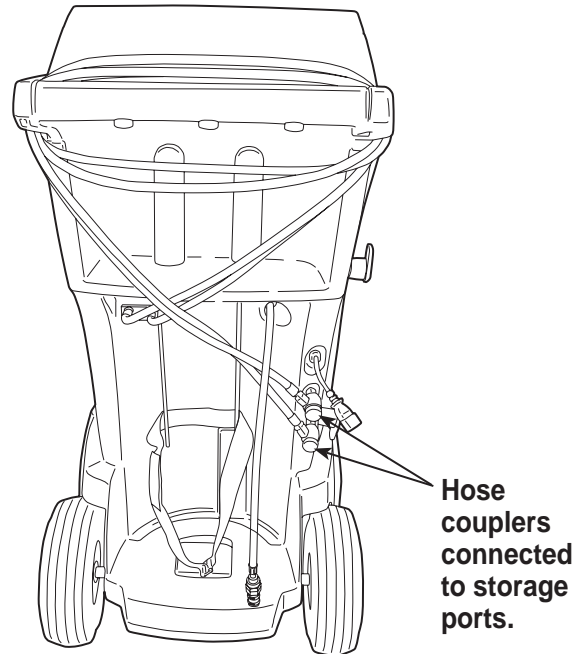

Figure 25
2. Loop the service hoses around the handle twice and attach them to the storage ports. See Figure 25.